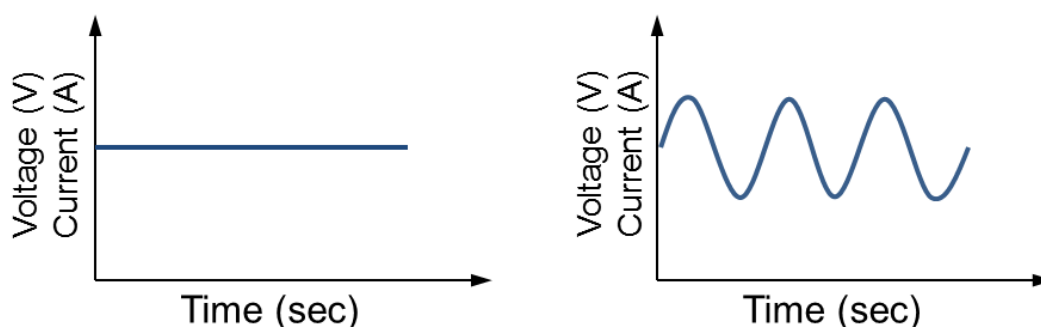

Figure 2. (Left) DC/(Right) AC signals: voltage and current versus time.
[Note] As shown in figure 2, there are two types of power supply: direct current (DC) and alternating current (AC). The current and voltage of direct current always stay constant independent of time. The current and voltage of alternating current would vary cyclically with time.